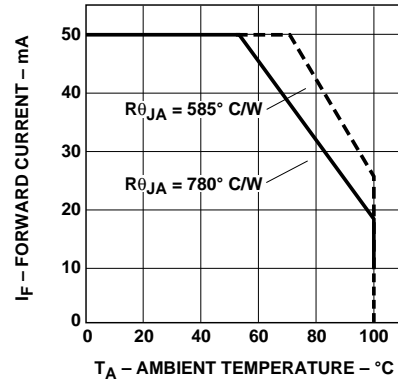

Figure 4. Maximum Forward Current vs. Ambient Temperature. Derating Based on $T_{JMAX} = 130^\circ\text{C}$.
- Derate linearly as shown in Figure 4.